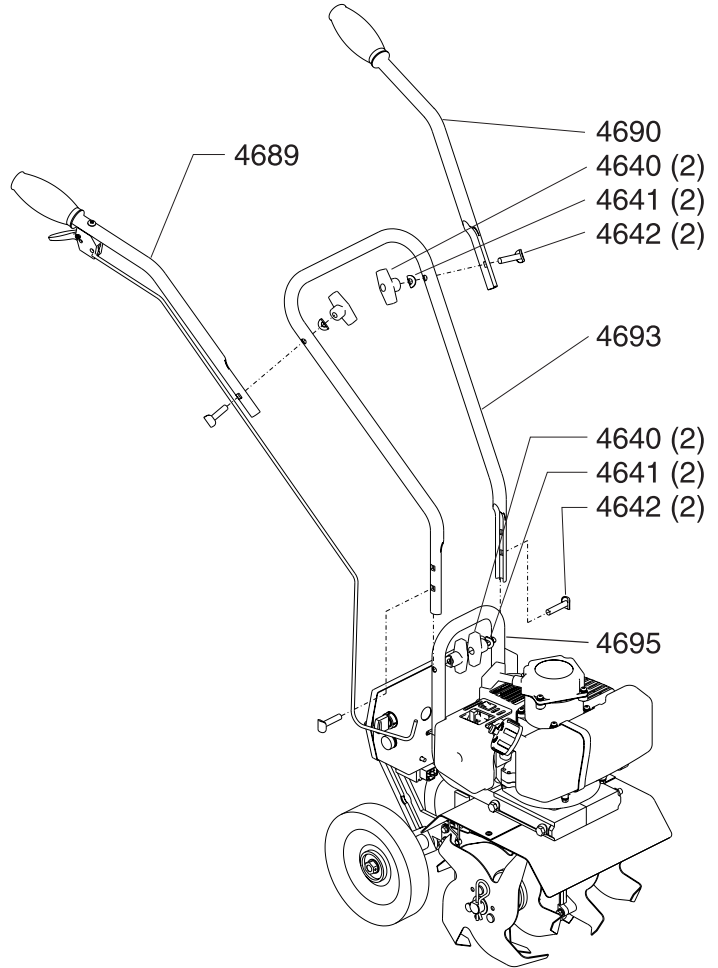

Figure 1
2. Using two tee handle nuts (4640), two bolts (4642), and two curved washers (4641), assemble the middle handlebar (4693) to the lower handlebar (4695) that is already attached to the mini cultivator assembly. See Figure 1. The middle handlebar can be installed in two positions one high and one low. **DO NOT overtighten the tee handle nuts.**
3. Attach the upper right and left handlebars (4689 & 4690) to the middle handlebar using the two remaining tee handle nuts, bolts, and curved washers. See Figure 1. **DO NOT overtighten the tee handle nuts.**
(Model MC43E shown. Figure 1 applies to both models MC43 & MC43E.)